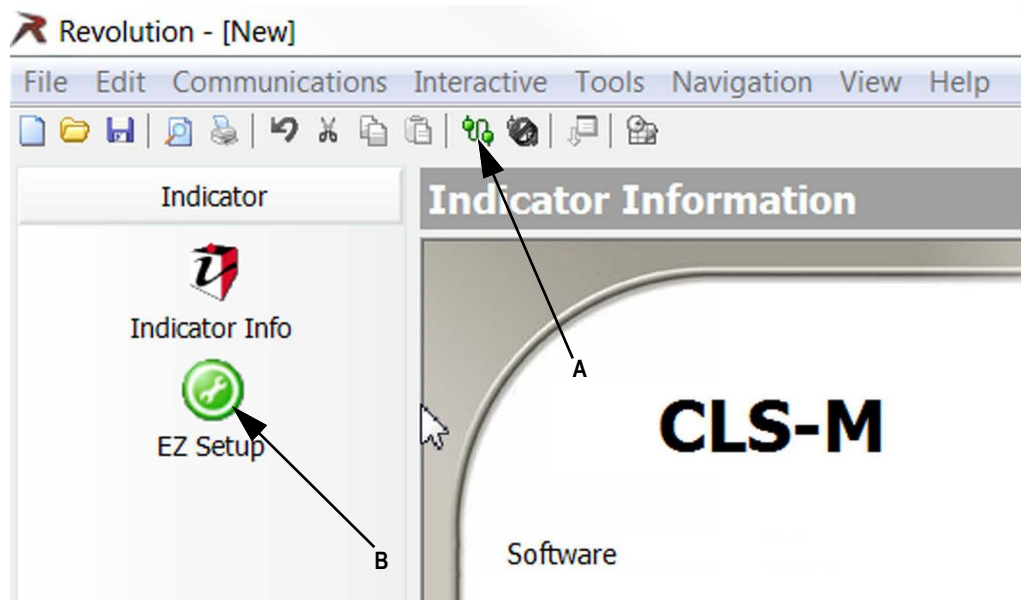
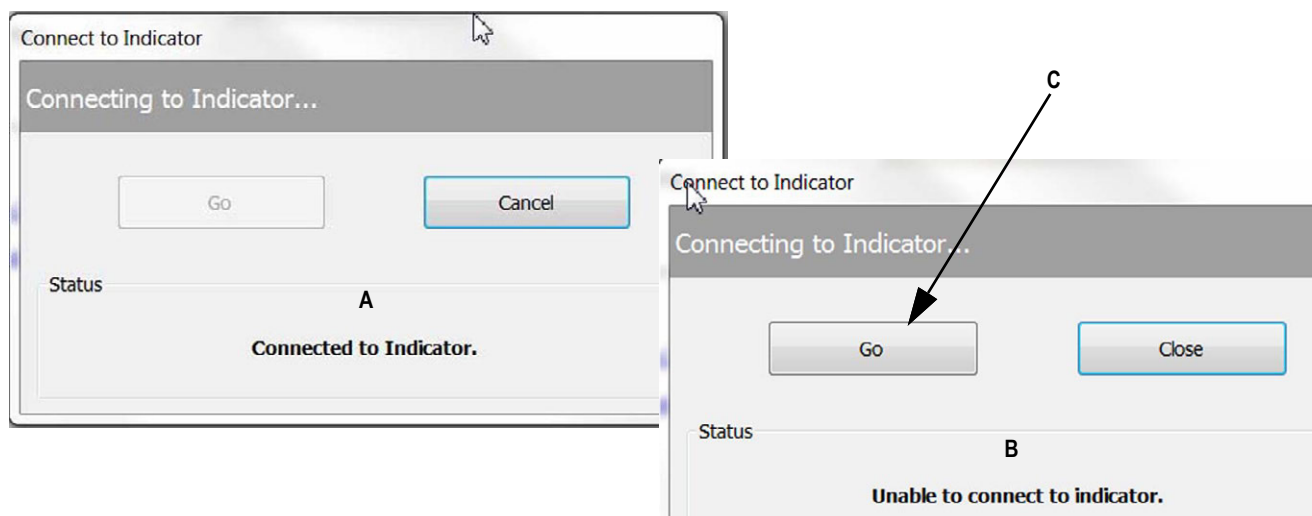

Figure 4-5. Connect Revolution
Figure 4-6. Connection Success/Failure
- Select the connect icon from toolbar (Figure 4-5 A). A pop-up box comes up momentarily (Figure 4-6 A) to indicate the computer is now indicated to the box.
- If it comes up as *Unable to Connect to Indicator* (Figure 4-6 on page 16 B) verify the Comm Port is correct and that the mobile PC is turned on. Then select **GO** (Figure 4-6 on page 16 C) to connect.